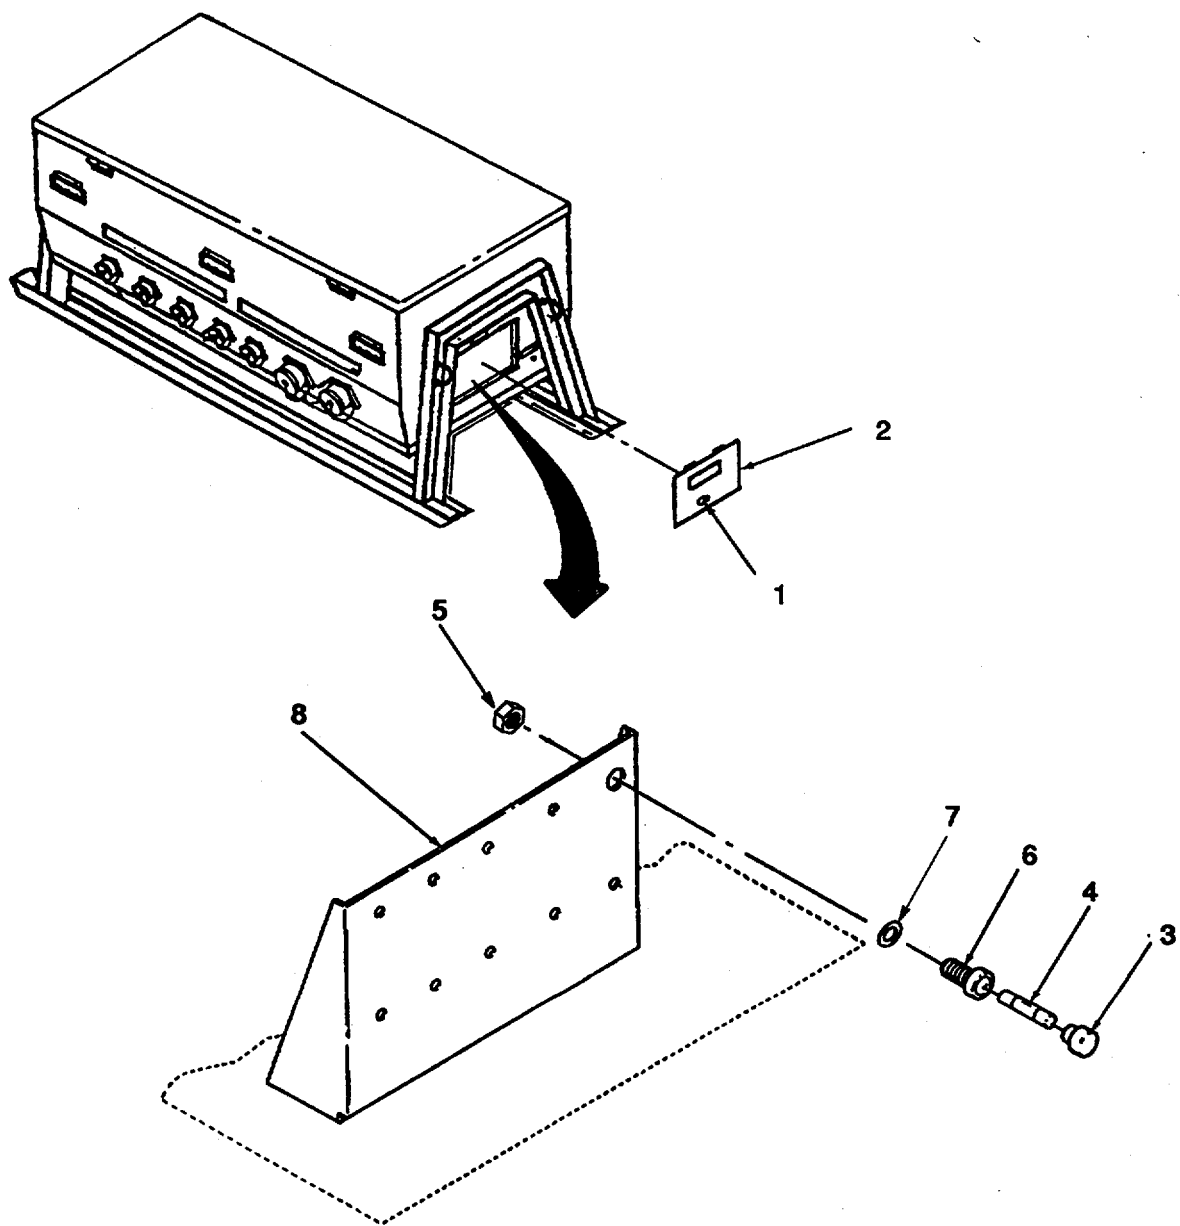

Figure 4-10. Fuse/Fuse Holder Removal.
- a. Unlock latch (1, Figure 4-10) and remove access door (2) by sliding off hinge.
- d. Remove fuse cap (3) and fuse (4).
- e. Remove nut (5) from body of fuse holder (6).
- f. Remove fuse holder (6) and gasket (7) from bracket (8)